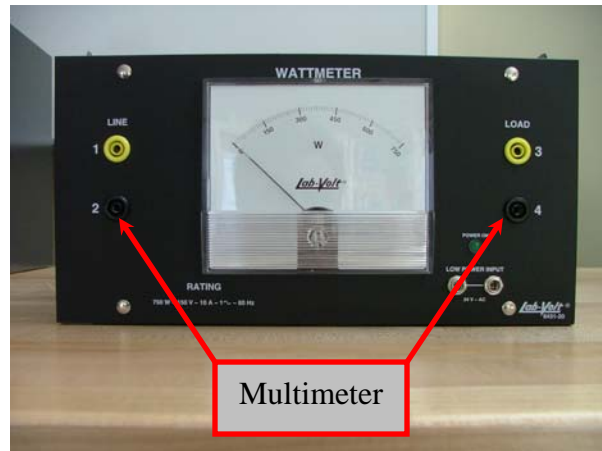

Figure 1 : Continuity verification
- 1- Take the 8431 Wattmeter out of the Workstation (8110 or 8134) and verify the continuity between the line ground terminal (jack #2) and the load ground terminal (jack #4) on the front panel. (See Figure 1)